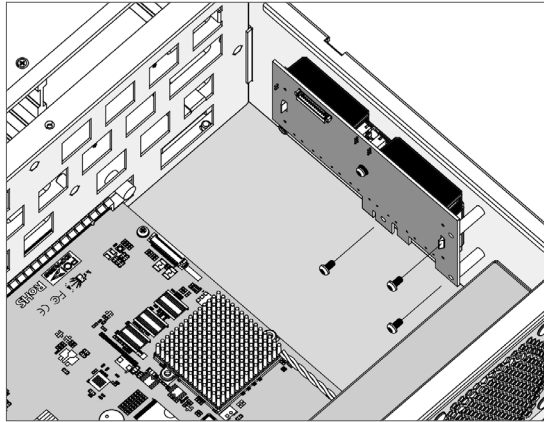

Figure B-10, Secure the Battery Module
2. After removing the cover, then secure the battery pack module (ARC-1883-BAT/CAP, reference NO.1 and NO.2 in Figure B-5) on the right side within the enclosure (for ARC-8050T3-24R), as shown in Figure B-10.